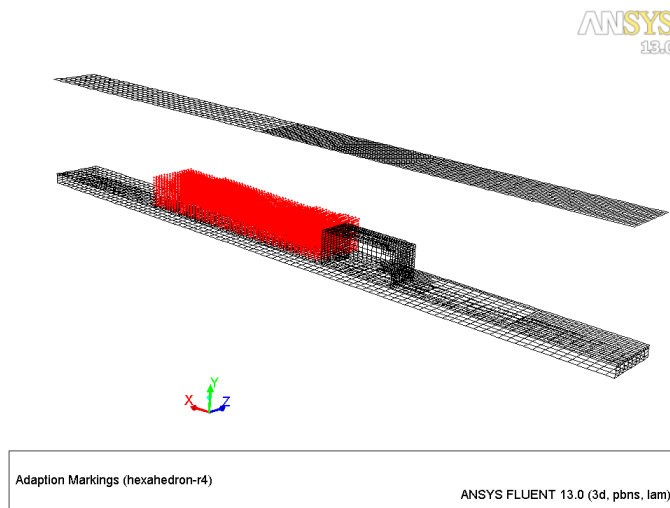

Figure 21: Cells Marked (approx. 11300) for Second Region Adaption
- Figure 21 shows the cells marked for the second region adaption.